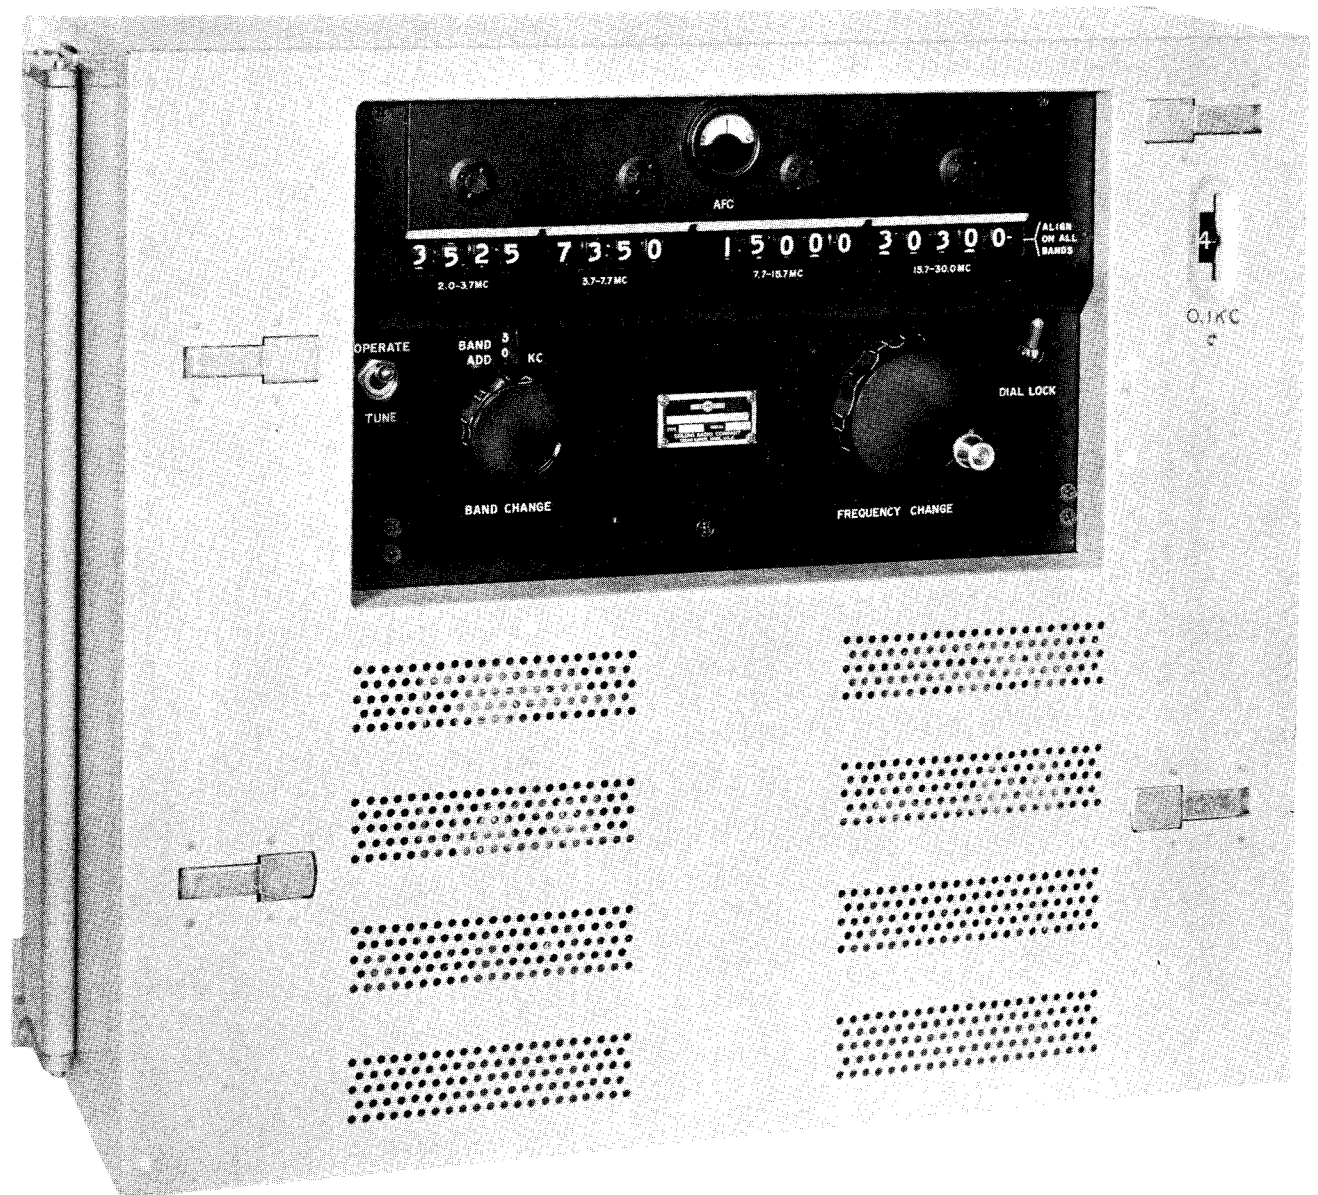

Figure 1-3. Converter-Oscillator CV-731/URC (AN/URC-32B Version)
c. CONVERTER-OSCILLATOR CV-731/URC. - (Refer to figure 1-3.) The CV-731/URC is used to translate i-f to r-f during transmit operation and r-f to i-f during receive operation. The unit contains an